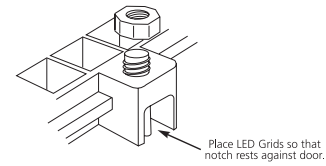

Figure 4, LED Grid Installation
5. Place one of the black plastic LED grids onto the mounting studs surrounding the display area. Place the grid in the center of the display area to hold the lexan sheets in place while the other grids are installed. Hold the grid in place with the supplied nuts. (See figure 4 below.)